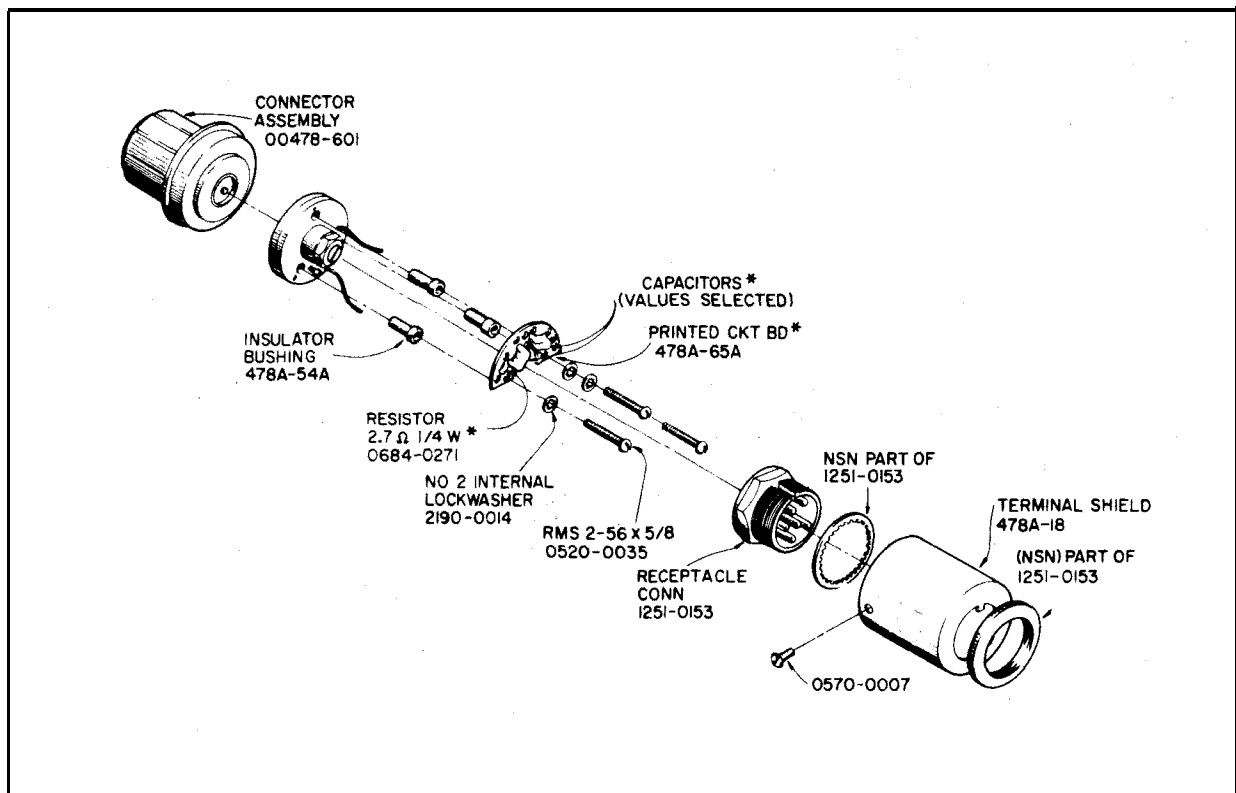

Figure 9. Model 478A Thermistor Mount Assembly
a. Remove three 2-56 x 3/16 screws holding terminal shield (Figure 9). Move terminal shield aside.